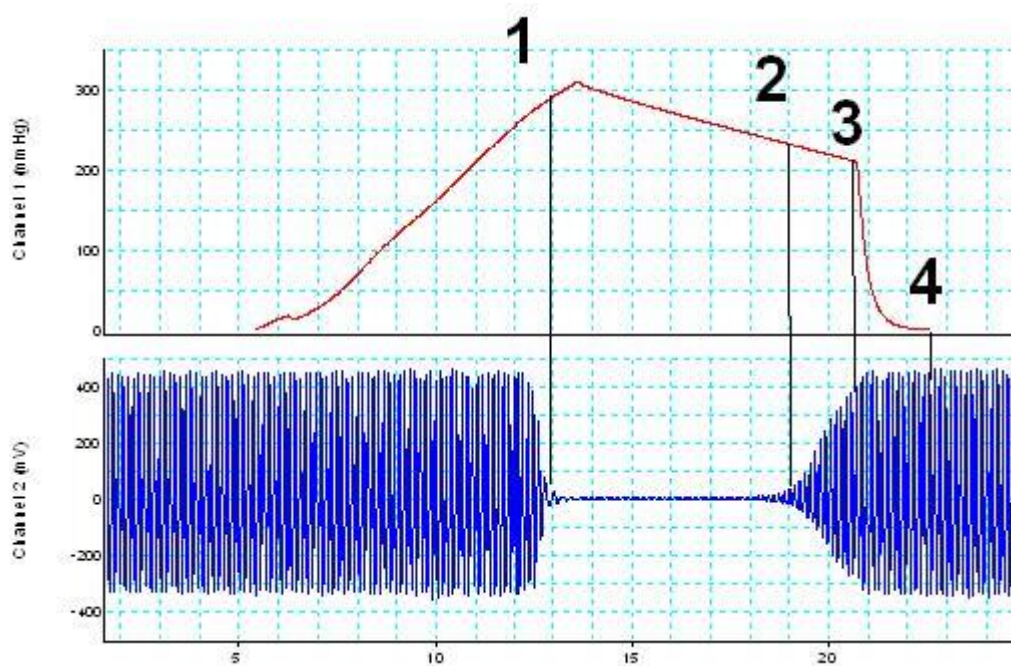

Figure 12. Waveforms in a measurement. Up (pressure) and down (pulses).
Waveforms of Figure 12 have been obtained by connecting CUFF PRESSURE and PULSE WAVE analog outputs to a data logger.
1. As soon as the "START" button is pressed the air pump starts and pressure in the sleeve starts to increase (see Figure 12). As of a certain pressure value, the amplitude of the pulse wave starts to fall and will eventually reach zero (point **1** of the Figure 12). As of this time, and following another brief pressure increase, the latter will start to fall, and the sleeve membrane will deflate. Point **1** is the systolic pressure taken in **UP** mode.